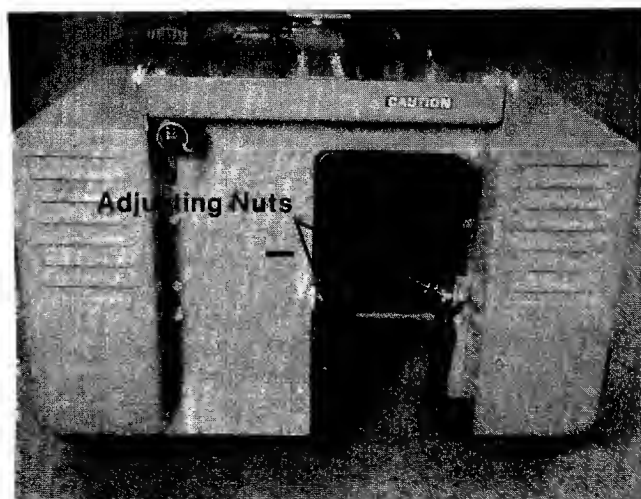

FIGURE 38.
1. To tighten the chain, loosen the two nuts on each side of the frame holding the differential bracket to the frame. See figure 38.
2. Tighten the adjusting nuts as shown in figure 38 until you have the proper tension.